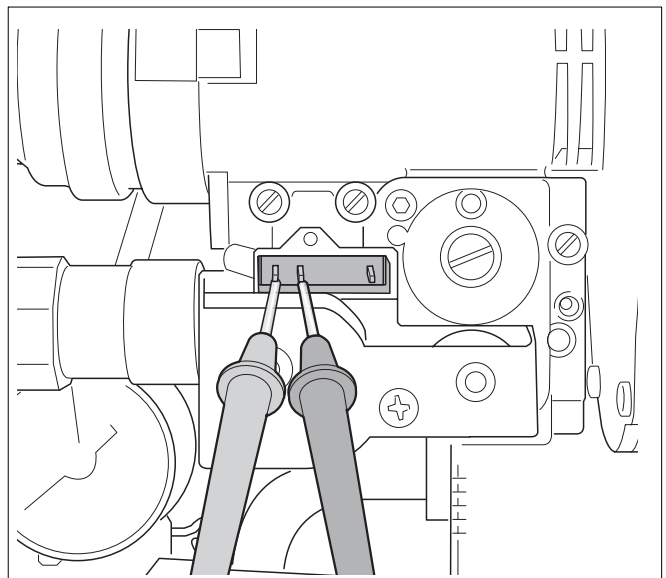
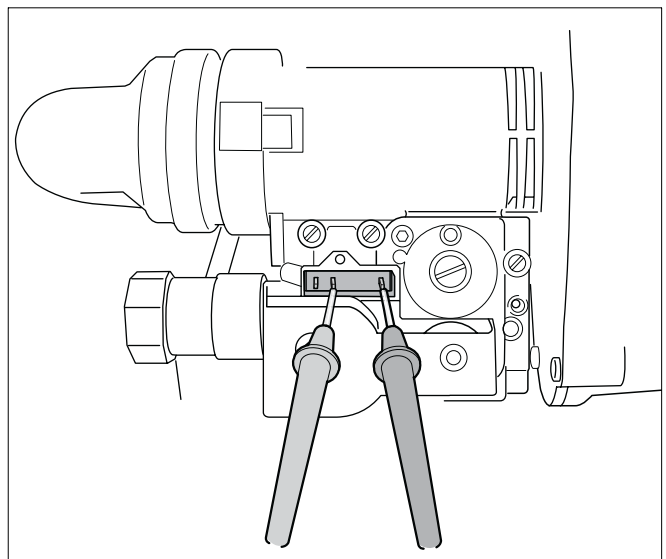

Fig. 78 Testing the resistance on the gas burner ass'y (1)
Fig. 79 Testing the resistance on the gas burner ass'y (2)
- Test the resistance of both coils of the gas control valve using the volt-ohm-multimeter. The resistance measured between the left and central contacts (see fig. 78) must be approx. 75 Ω and between the right and central contacts (see fig. 79) this must be approx. 185 Ω (+/- 10 Ω). If this is not the case, the gas control valve will probably be defective. It must then be replaced.